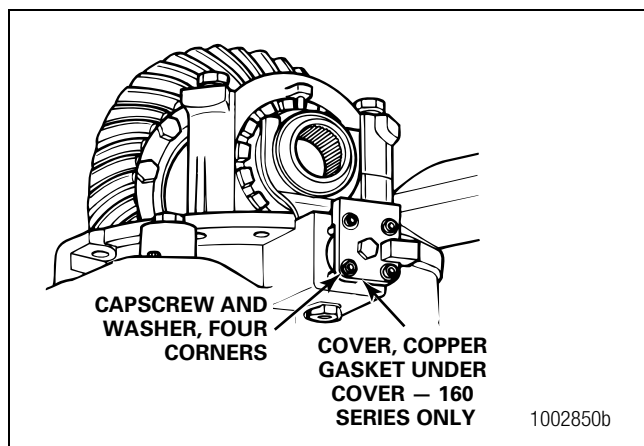

Figure 6.14
- B. Remove the four capscrews and washers that hold the cylinder cover. Remove the cover. On the 160 Series, remove the copper gasket. Figure 6.14.